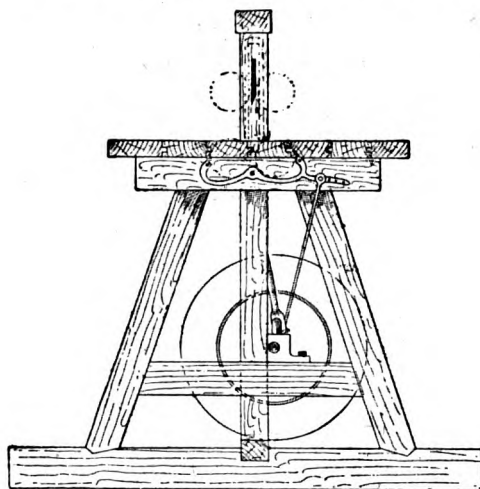
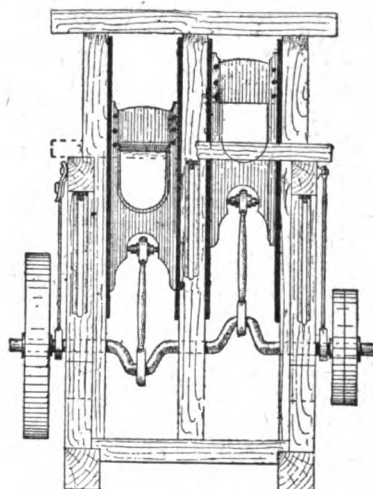

Fig 1
Fig 2
**Firewood-splitting Machine.**—Figs. 1 and 2 show side and front views of a firewood-splitting machine that has been calculated to split 10 cwt. or slightly more of wood per hour. It is assumed that a wooden construction is desired, and that second-hand iron fittings are to be used. No sizes are given, but the general proportions shown in the drawings should be observed. In Fig. 2 the wheelwork and connections of the feed arrangement (except the eccentric rods) are omitted for the sake of clearness. In Fig. 1 the feed arrangement is indicated by dotted lines only, but an automatic feeding arrangement is essential in the completed machine. The feed is, of course, intermittent, the block standing still while